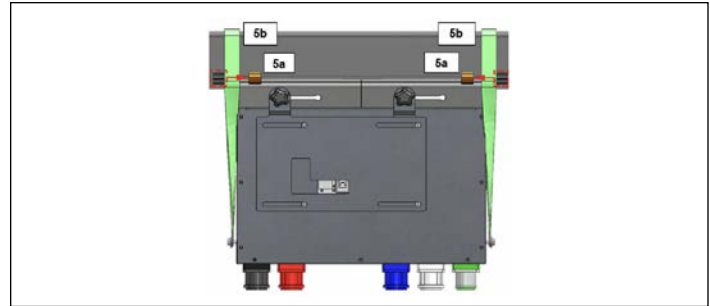

Figure 4. Secure the LBTOB on the rail
- Move both retainer clips inward over the lip of the LBTOB (Figure 4).
- Wrap the straps (shown in green) on each side around the bus rail. Connect each strap through the strap's cam buckle. The strap on each side should be tight and snug around the bus rail (Figure 4).